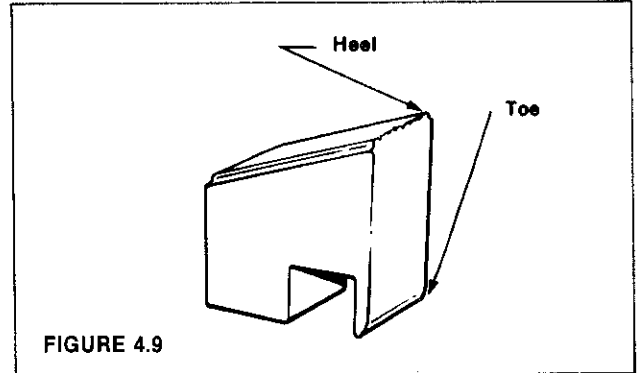

FIGURE 4.9
9. Governor Weights - Check pivot points (heel and toe) of all weights for excessive wear (Figure 4.9).